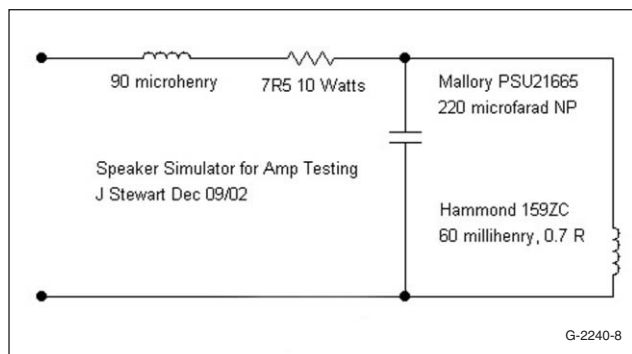

FIGURE 8: Loudspeaker simulator.
The loudspeaker simulator (Fig. 8) has a nice peak at about 45Hz, similar to a speaker's resonance in its box. If you need to simulate a reflex enclosure you will need a second LC circuit. Other resonant frequencies can be set by changing the Hammond 159ZC choke or its resonating non-polarized (NP) capacitor, which was originally meant as a motor starting cap. The rise of impedance caused by the 90μH choke starts at about 4kHz and is well up at 10kHz, similar to a real speaker.